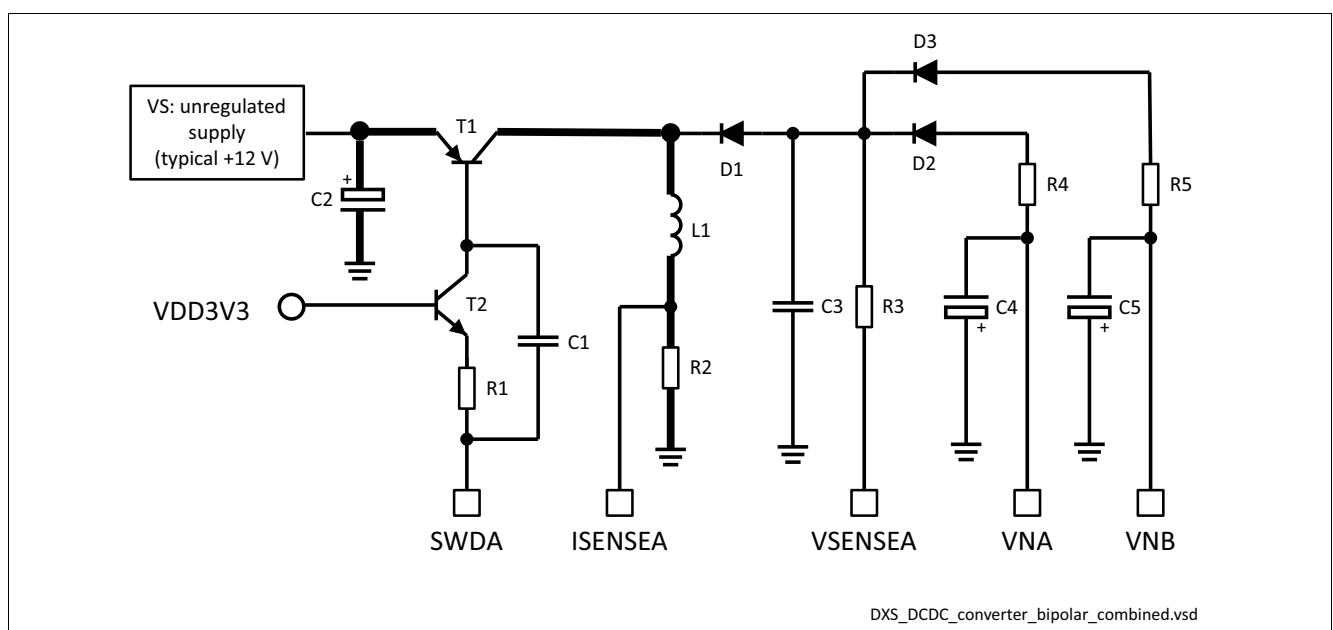

Figure 9 Combined Inverting Buck-Boost Converter Circuit for 12 V (CIBB12)
- **Combined inverting buck-boost DC/DC converter with input voltage +12 V (CIBB12)**, see Figure 9
Combined Inverting Buck-Boost Converter Circuit T1.2 for 12 V, see Figure 9